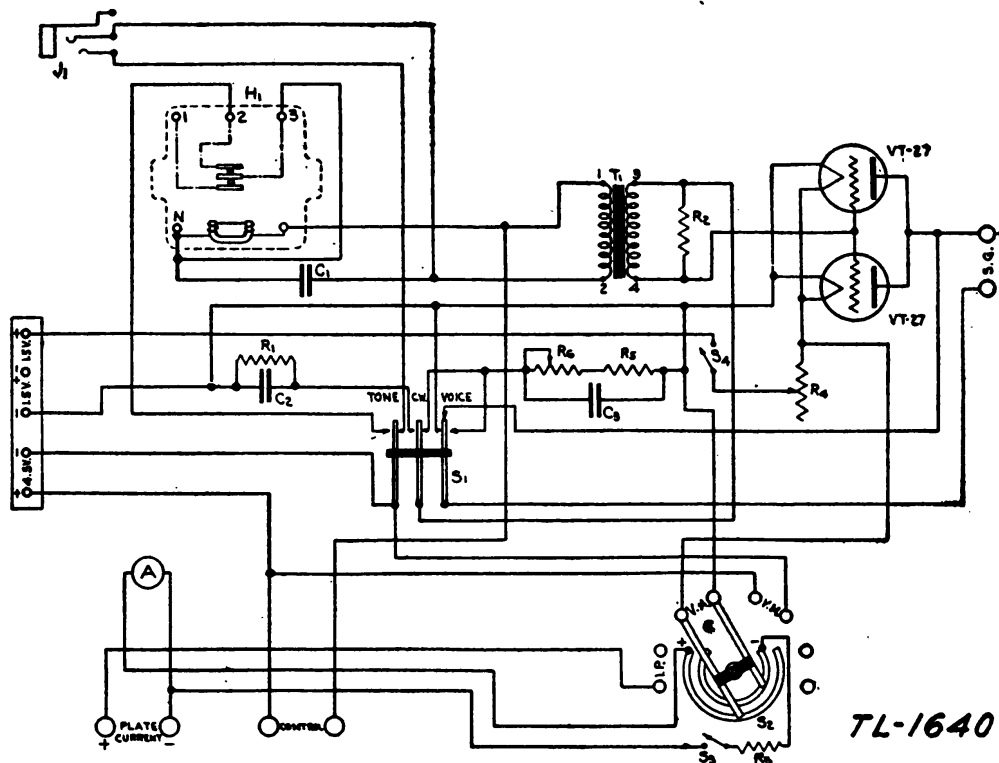

FIGURE 20.—Radio modulator BC-188, circuit diagram.
15. Radio modulator BC-188 (figs. 20 and 21) or BC-188-A (figs. 21 and 22).—These units are interchangeable, and differ only in minor respects. (See par. 27.) The modulator consists of two audio-frequency amplifier tubes in parallel, a microphone transformer, an interrupter for tone operation, and a microphone (external) for voice operation. The modulator is connected in the power amplifier screen supply lead and acts as a variable resistance, changing the
nected to the transmitter screen-grid circuit. Grid bias is controlled by rectified grid current through R_1 which causes it to act as an automatic biasing resistor and to reduce the continuous wave carrier output of the transmitter to the proper value for modulation. C_2 is an audio-frequency bypass capacitor. Filament power supply is controlled by switch S_4 and rheostat R_4 . S_2 (fig. 20) is the meter switch. It indicates filament voltage on VA and microphone or interrupter voltage on VM. S_3 (fig. 20) is the push button which closes the circuit through the meter switch for either indication. R_3 (fig. 20) is the resistance which